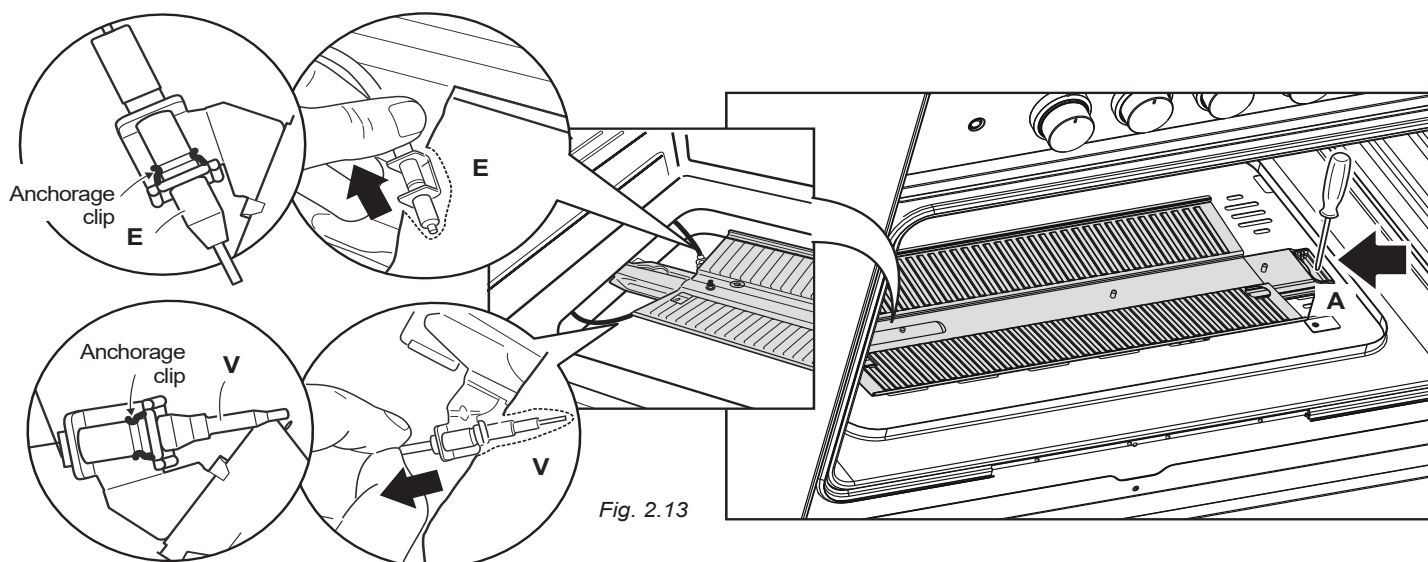

Fig. 2.13
- Gently unlock, from the burner, the safety valve probe "V" and the ignition electrode "E" (as indicated in fig. 2.13). Take care not to damage the probe and the ignition electrode.
- Unscrew and remove the burner securing screws "A" (fig. 2.13).
- Using a 7 mm box spanner, unscrew the injector (indicated by the arrow in fig. 2.13) and replace it with a new one selected in accordance with the "Injectors table".
IMPORTANT: Pay special attention to replace correctly the safety valve probe "V" and the ignition electrode "E" as per figure 2.13. Check the correct operation of the safety valve and the ignition electrode.